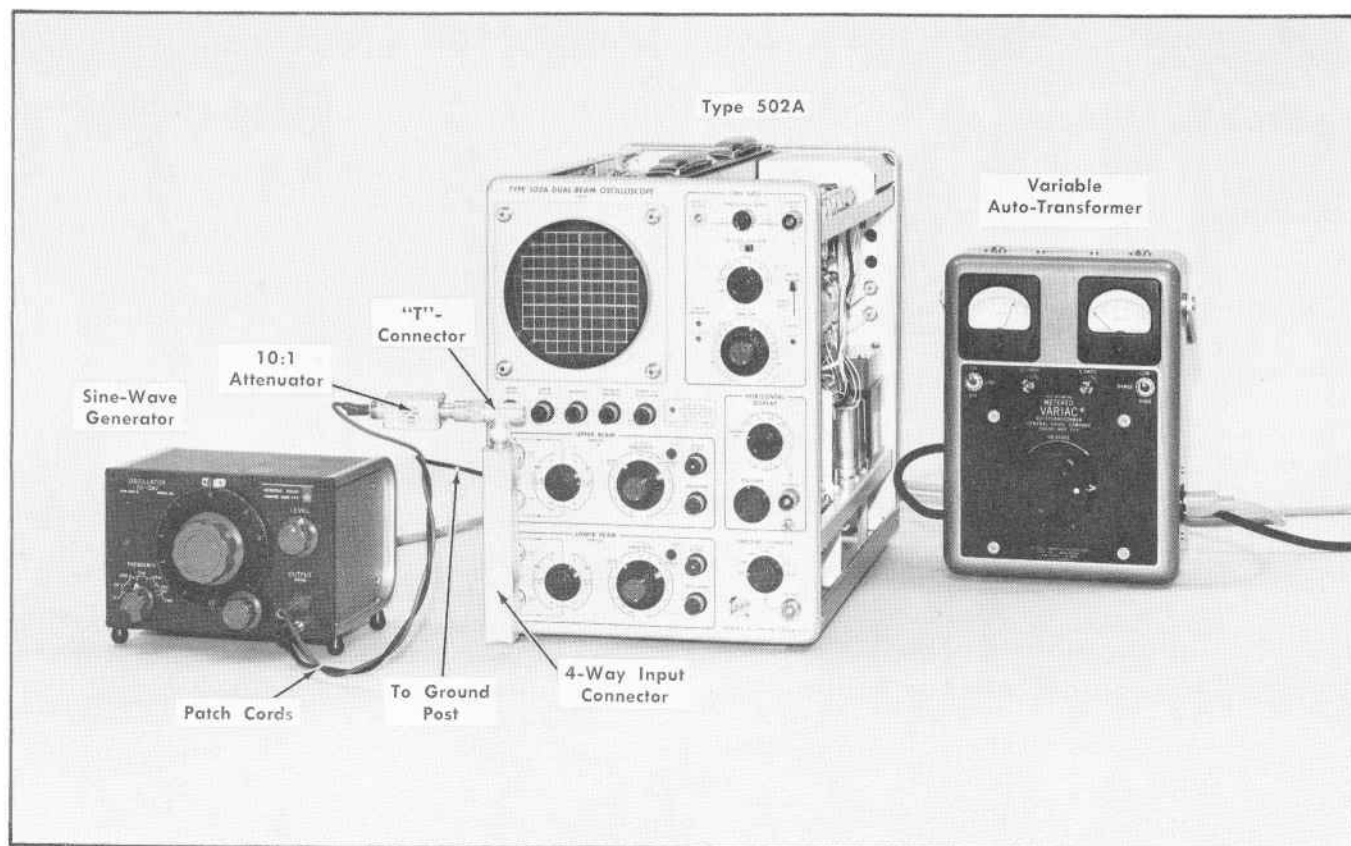

Fig. 6-31. Test equipment setup for steps 32 through 34.
- Connect the equipment as shown in Fig. 6-31.
- a. Set up the equipment as shown in Fig. 6-31.